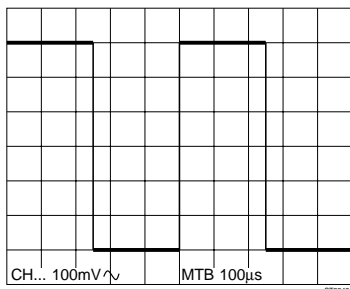

Figure 3.3
- Verify that a square wave as indicated in Fig. 3.3 is displayed.
- Turn the POS control CCW until the display of Fig. 3.3 is obtained again.
- Press the AC/DC/GND key so that ac input coupling (\sim) is obtained. The waveform as indicated in Fig. 3.3 is displayed again.
- Verify that a square-wave as shown in Fig. 3.3 is displayed.
- Press the TRIG 1 key again and verify that the displayed square-wave starts with a positive-going slope as indicated in Fig. 3.3.
- Select 100 μ s/division with the MAIN TB TIME/DIV keys and verify that the square wave is displayed as shown in Fig. 3.3.